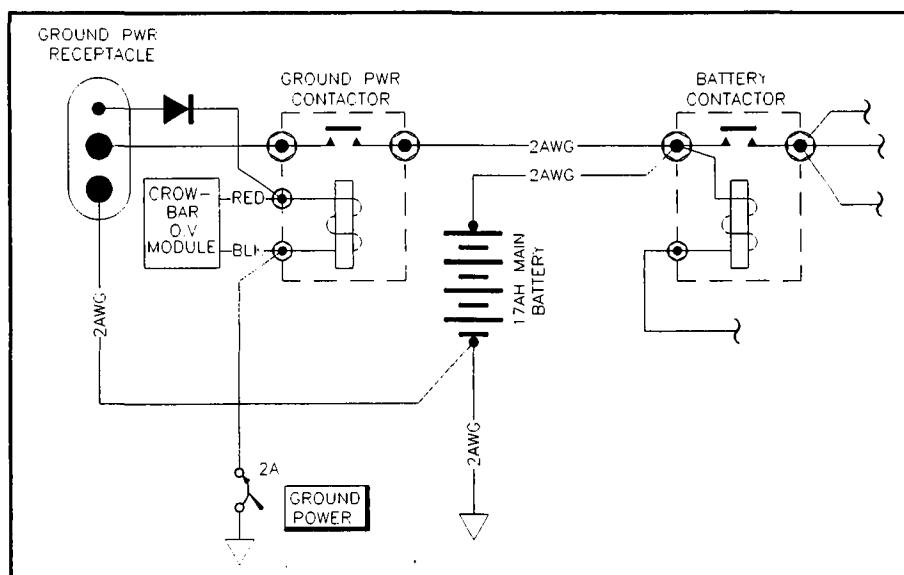

Figure 11-23. Ground Power Contactor.
**Ground Power Contactors** are left off many ground power receptacle installations. Here's why I think they're a good idea. Referring to Figure 11-23 note that I show a contactor in series with the main power between the receptacle and the battery. This gives the contactor command and control over any power source connected to your airplane's electrical system. Note that with the **GROUND POWER** switch-breaker closed, the ground power contactor will energize any time power is present on the receptacle . . . provided it's the right polarity. The contactor is prevented from closing in case of accidental reversal of ground power polarity by a diode in the lead between the receptacle's small sense pin and the contactor coil terminal. Polarity reversal accidents are most common with battery carts that routinely receive maintenance that requires unwiring and rewiring a stack of batteries.